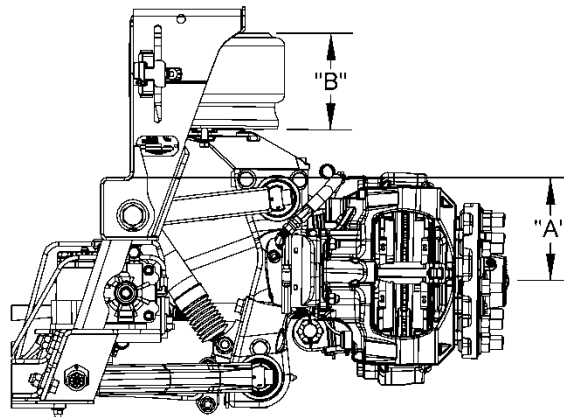

Figure 8 – Ride Height Measurement
3. Verify the ride height by measuring from wheel center to the bottom of the frame ("A") or air spring height ("B"). If the dimensions are not within $\pm .125"$ (**Figure 8**), readjust.
4. The actuation arm of the height control valve should be horizontal at ride height (**Figure 8**). See section for adjusting to correct ride height.